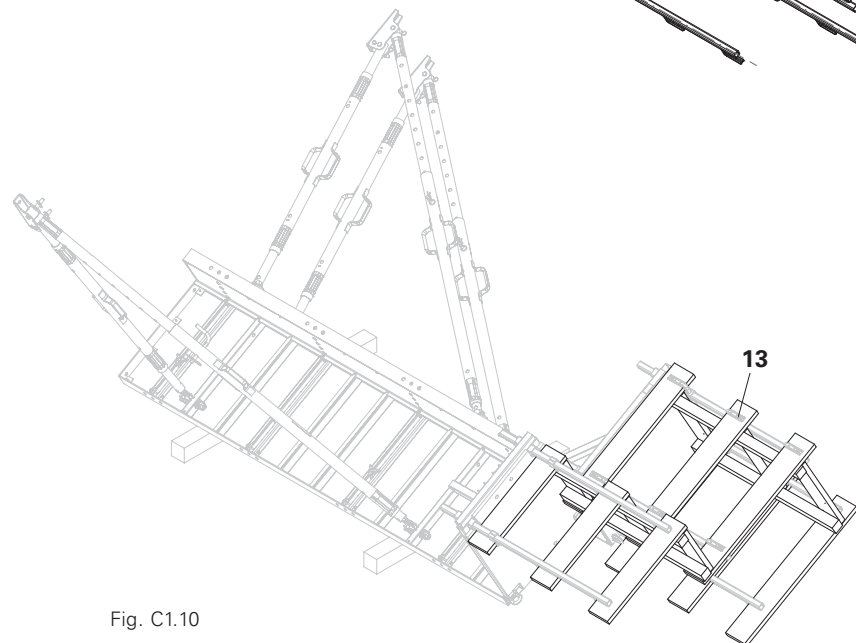

Fig. C1.10
3. Mount guardrails and secure. Open sides of platform and platform crossings are secured with guardrails (13). (Fig. C1.10)